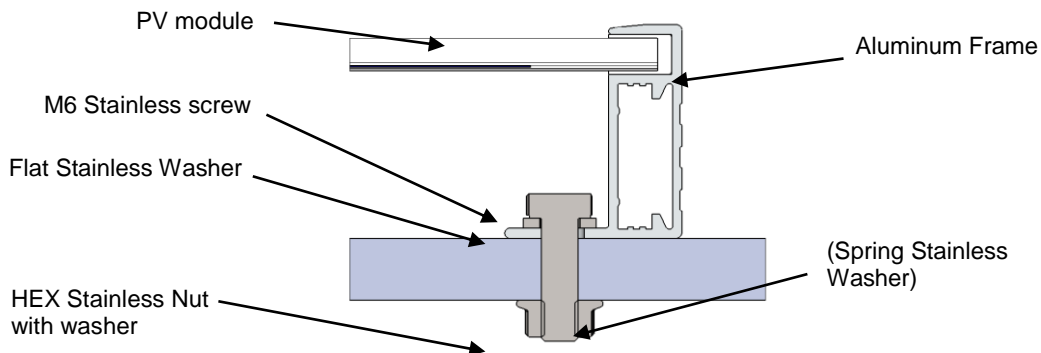
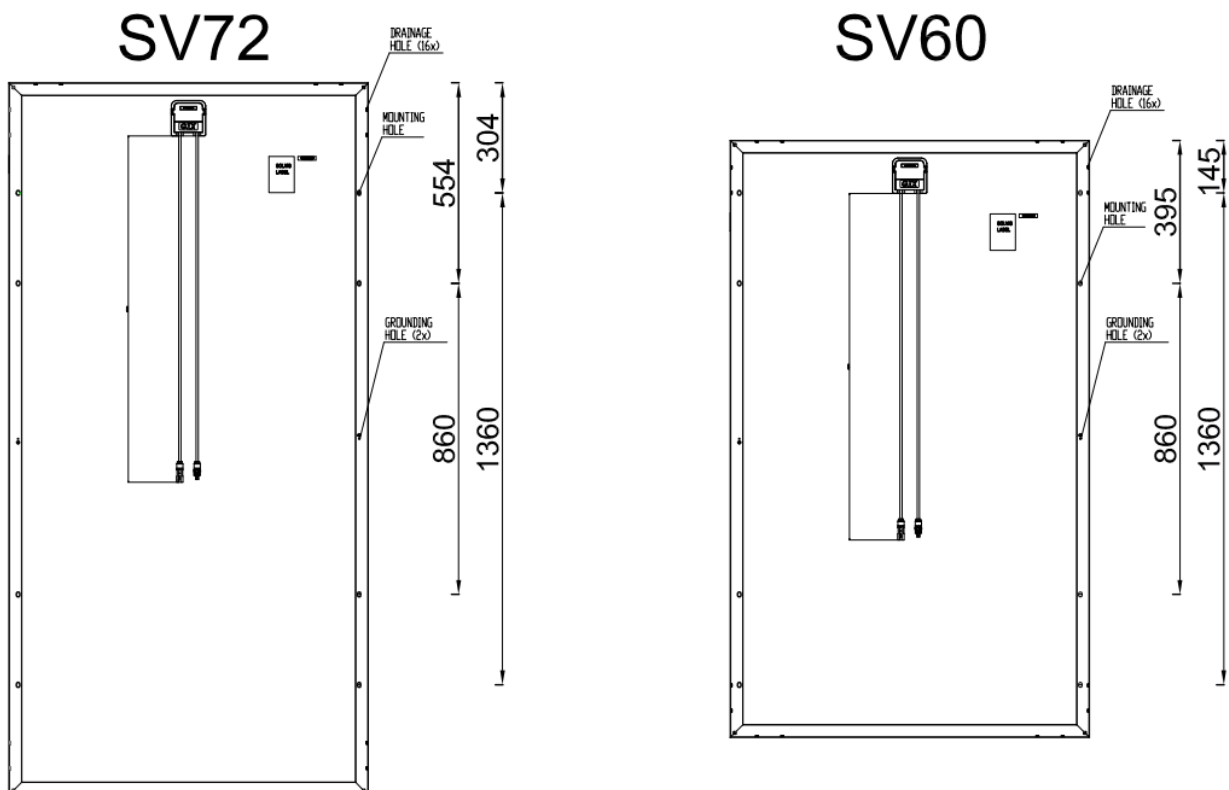

Figure 1. Screw fitting (for illustration only)
Figure 2. Positions of mounting holes, SV72 and SV60
Modules may be mounted at any angle from horizontal to vertical with exclusions mentioned in this manual. Select the appropriate orientation to maximize sunlight exposure. Specific information on module dimension and the location of mounting and grounding holes is provided below (Figure 2). We recommend that PV modules are mounted at a minimum tilt angle of 6° with respect to the horizon, in order to facilitate the self-cleaning of their front glass from dirt during ordinary raining.
- 1) **Frame Holes:** Secure the module to the structure using the factory mounting holes. Four M6 (1/4") stainless steel bolts, with nuts washers, and lock washers are recommended per module (*Figure 1*). Position of mounting holes for module types SV60 and SV72 can be seen on figure 2, for other type of modules, please check relevant datasheet.